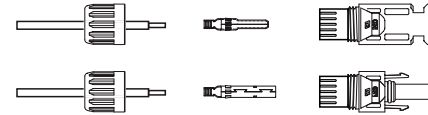

Figure 5.17 Disassemble the Connector Cap nut
1. Strip off the DC wire for about 7mm, Disassemble the connector cap nut. (see Figure 5.17)